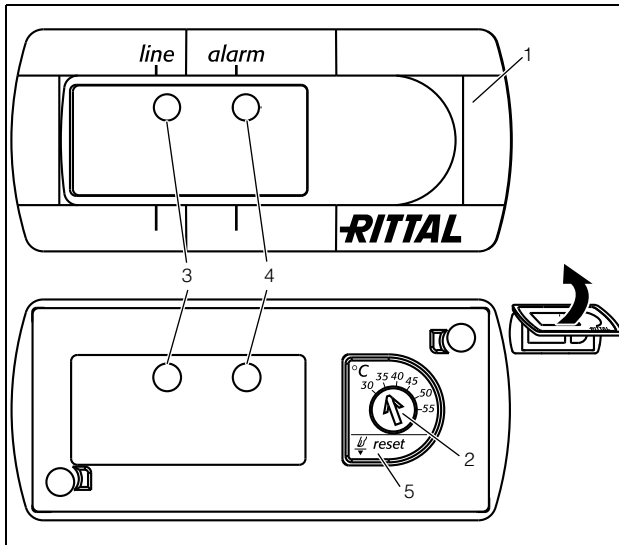

Fig. 33: Basic controller
- Set the required temperature on the temperature setting device (fig. 33, page 21).
- Press the reset button (fig. 33, no. 5) for at least 3 seconds.